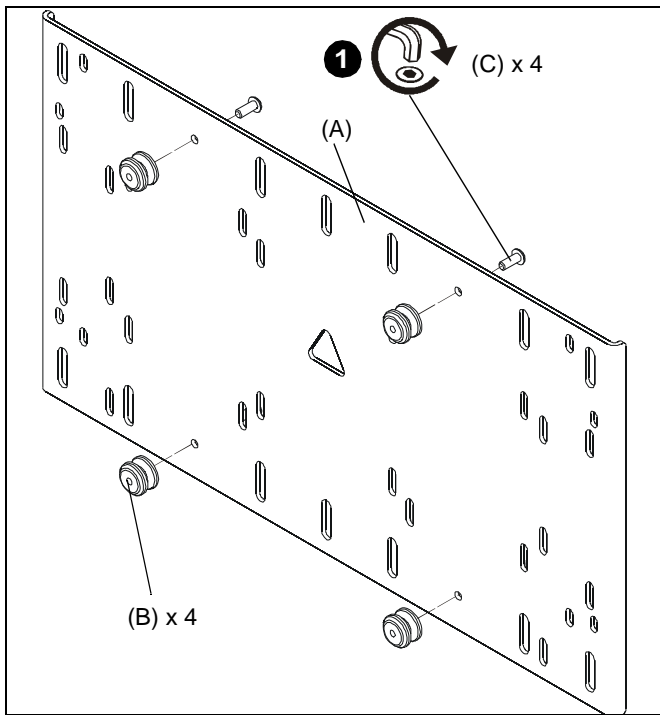

Figure 1
1. Install four #10-24 x 1/2" button head cap screws (C) through four holes on back side of bracket and into four mounting buttons (B) with chamfered hole of mounting button (larger surface) facing bracket. Tighten screws until mounting buttons are fully secured to bracket. (See Figure 1)